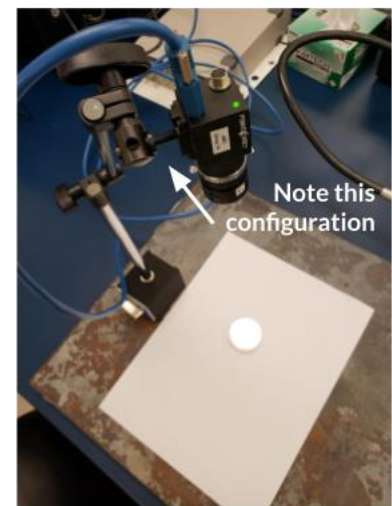

Figure 1. Fly locomotor recording setup.
2. Set up your camera and petri dish as in Figure 1. You want your camera to be about 6" from the petri dish.